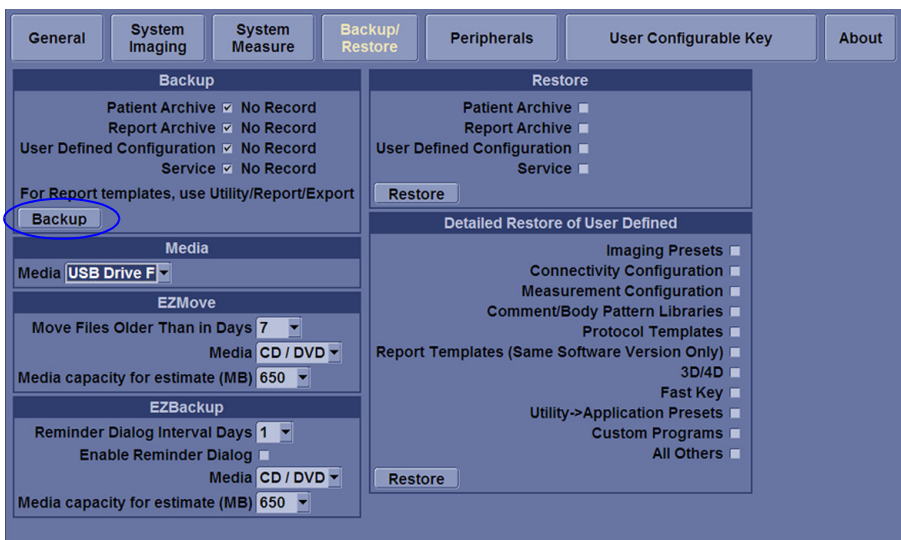

Figure 4-20 Backup/Restore Menu
- 5.) Select **Backup**, as shown in Figure 4-20.